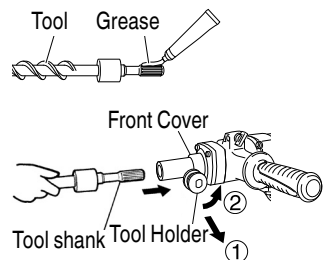

Fig. 3
- (1) Clean, then smear the tool shank with the grease or oil.
- (2) Pull the tool holder in the direction of arrow ① and rotate it in the direction of arrow ② (counterclockwise). Fully insert the tool shank into the hexagonal hole of the front cover. (Fig. 3)